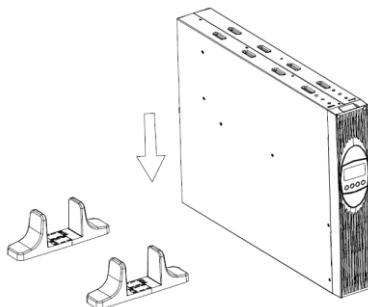

Figure 4: Installation as tower
| Figure 4: Installation as tower .....                      | 50 |
- Push the UPS system vertically into both bases (see Figure 4). Pay attention to the largest possible distance between the bases to guarantee high stability.